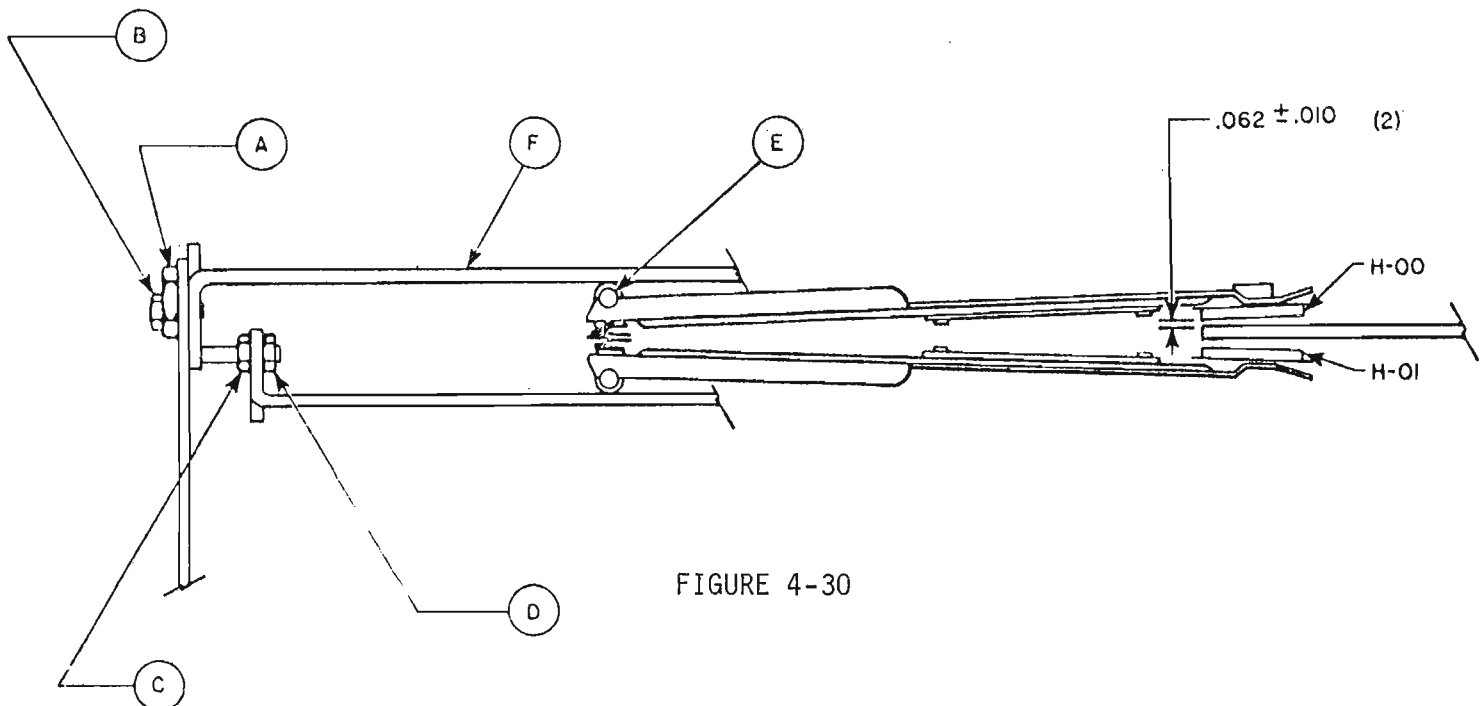

FIGURE 4-30
1. Refer to Figure 4-30. With disk rotation stopped, check for $.062'' \pm .010''$ clearance between head H-00 and the recording disk. Adjust by turning eccentric (A), keeping the "Throw" of the eccentric generally to the right side of the drive. Tighten screw (B).